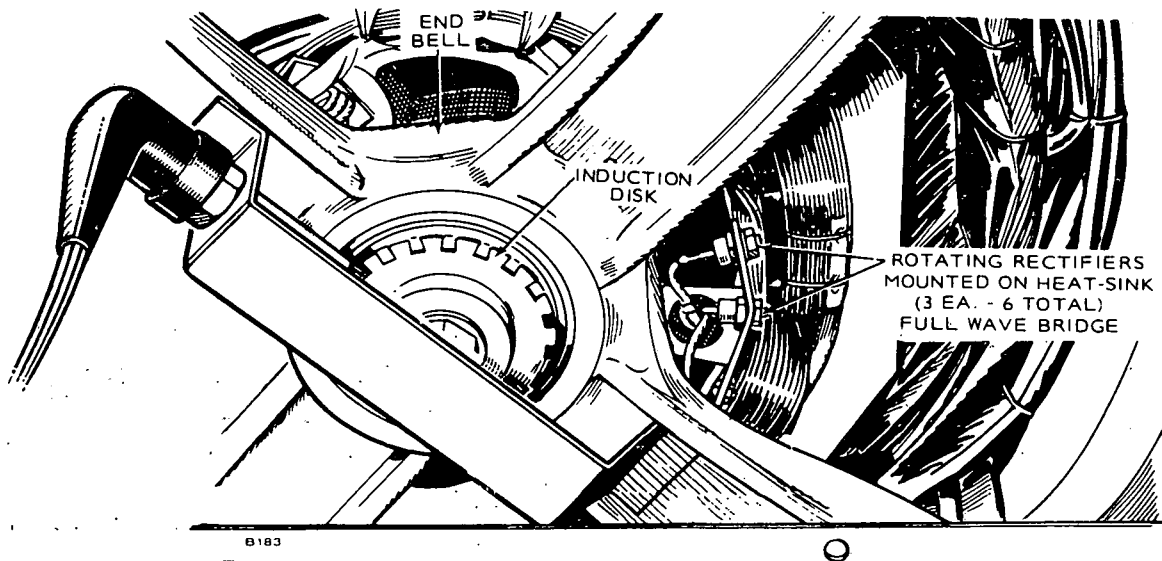

FIGURE 2: OVERSPEED SWITCH
- b. Overspeed (engine speed reaches 2100 rpm). See Figure 2.